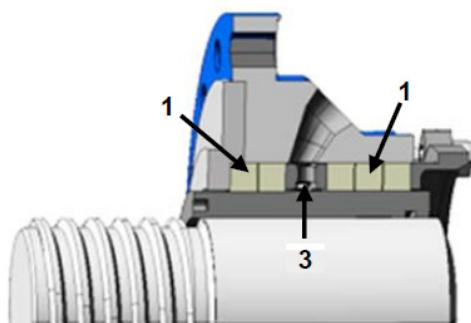

Figure 9-3: KE Design
- **KE:** (Figure 9-3; 1 is the packing and 3 is the lantern ring.) The KE design is used where minimum water usage is desired. One or two rings of packing are located between the lantern ring and the wear plate to restrict seal water flow into the pump cavity, while the packing rings behind the lantern ring seal to the atmosphere. Because this design is the most sensitive design to variable operating conditions and abrasive wear, it requires more careful maintenance.